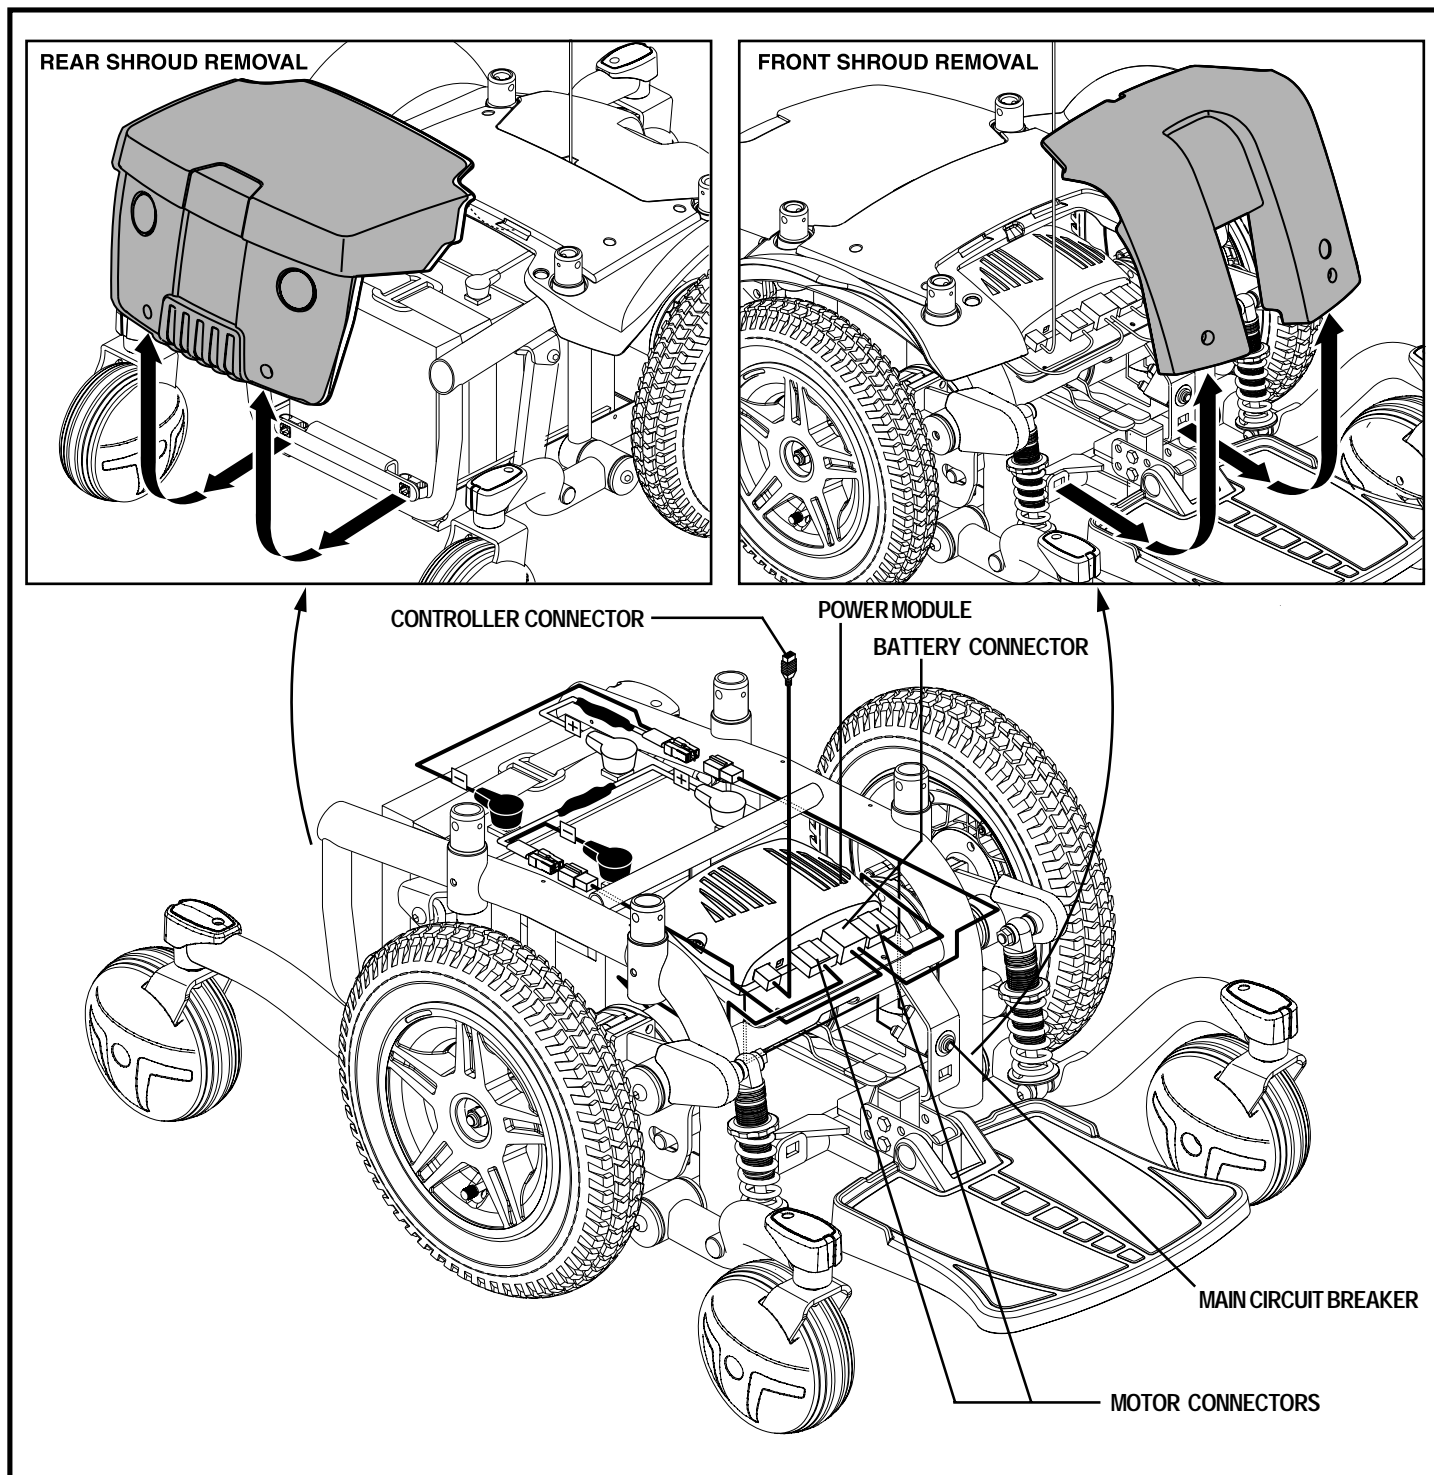

Figure 7. Quantum 614 Series Electrical Components
The electrical components are located on or inside the power base. The main circuit breaker is located on the front of the power base. The power module is located inside the power base. See figure 7.
6. Plug the controller connector into the power base. See figure 7.
2. Disconnect the controller connector(s) from the power base. See figure 7.